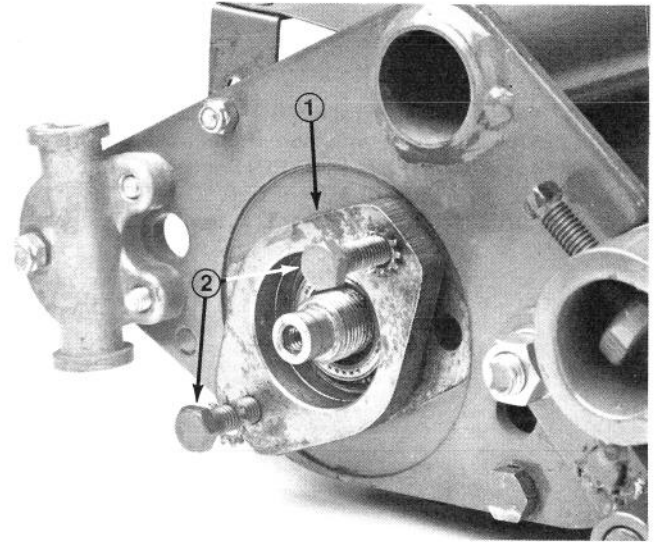

Figure 15
5. Using a plastic headed hammer, rotate bearing housing slightly, install bearing housing bolts from outside housing, turn bolts alternately against side plate and use this method to remove bearing housing (Fig. 15).